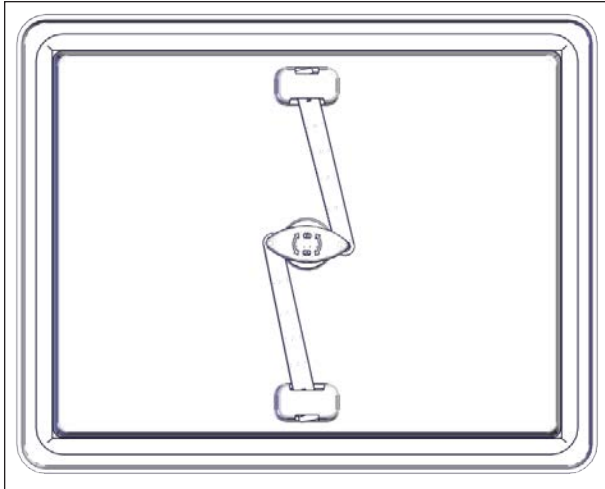

FIGURE 72: INTERIOR HANDLE
1. Turn the red handle by a quarter turn in either direction to retract the arms, see Figure 72.